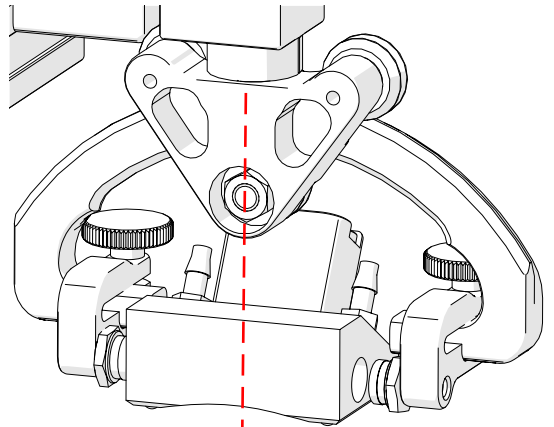

Fig. 208 - Align probe
5. Align the probe to be used with the centre of yoke pivot (Fig. 208).